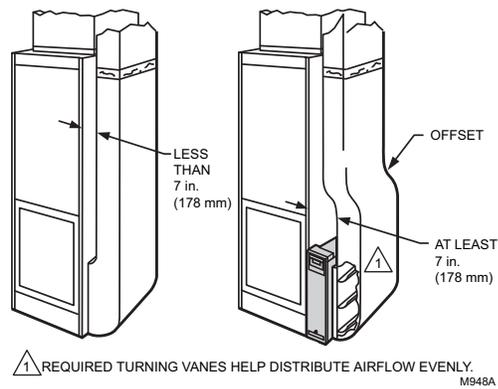

Fig. 14. Typical use of duct offsets to make room for media air cleaner.
- If the duct connection to the furnace in a side installation is less than 7 in. you will need to add an offset. See Fig. 14.